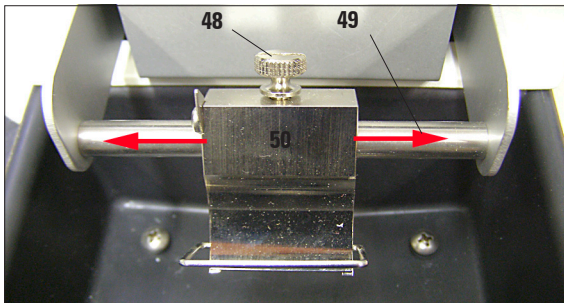

Fig. 45
- By loosening the knurled screw (48), you can move the blade holder sideways along its axis (49) and thus position it more accurately relative to the specimen (Fig. 45).